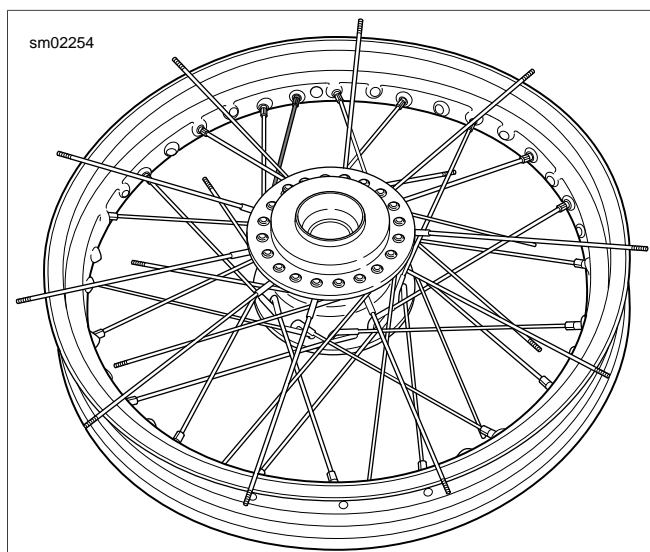

Figure 2-39. Beginning Spoke: Top Flange Inner
- a. See Figure 2-39. Verify spoke reaches spoke nipple and secure spoke by hand. Follow pattern to complete top flange inner spokes (long head).